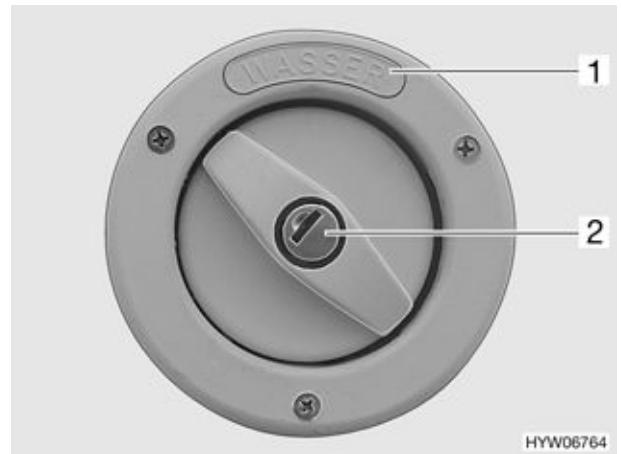

Fig. 157 Cap for the fresh water filler neck (variant 3)
The fresh water filler neck is labelled with the word "Wasser" (water) (Fig. 157,1).
- Insert key into locking cylinder (Fig. 157,2) and turn it in an anticlockwise direction.
- Put the key in the locking cylinder (Fig. 157,2) and turn in a clockwise direction.
- Open the fresh water filler neck (Fig. 155 or Fig. 157) on the outside of the motorhome.